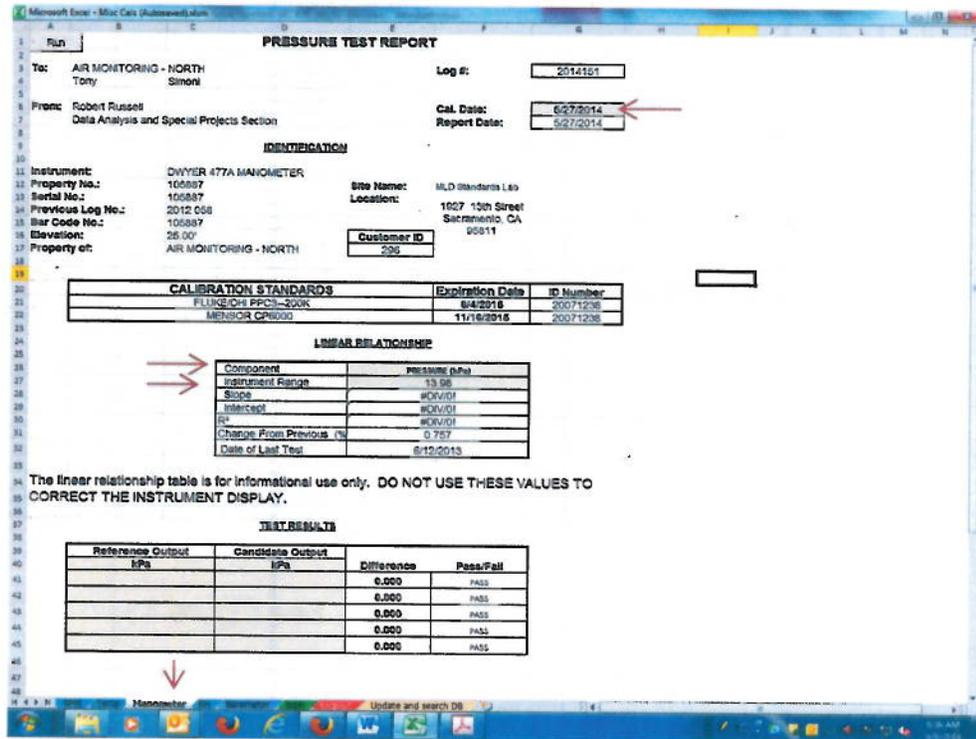

Figure 10
11.10 Select the “Manometer” worksheet. Enter the appropriate information into the “Cal. Date:” “Component,” and “Instrument Range” cells. See Figure 10.